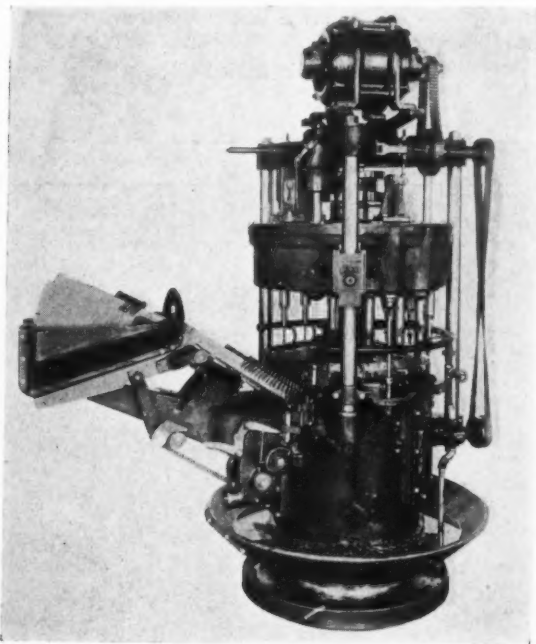
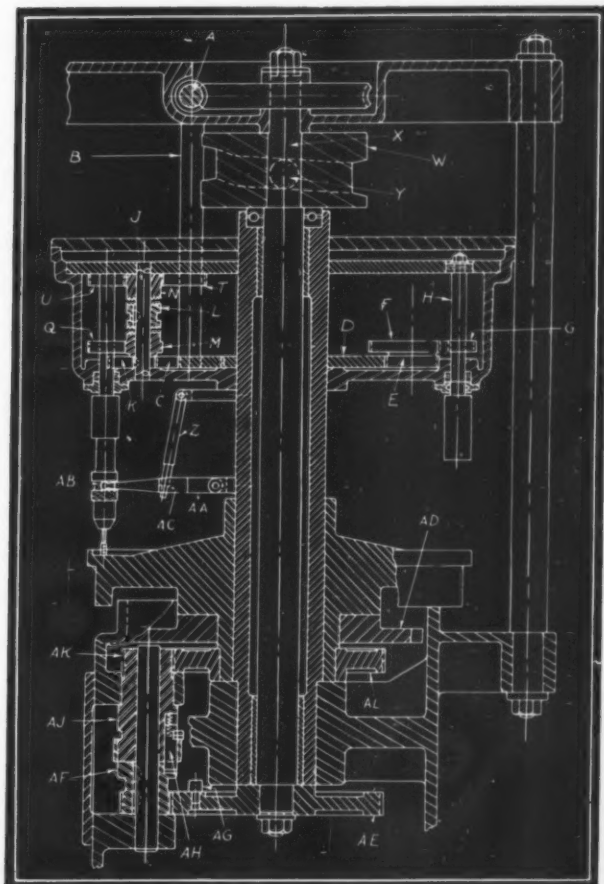

Fig. 1—General view of the machine showing hopper at left
Fig. 2—Cross section through operating mechanisms
Since the loading conditions are generally known, we can figure the approximate eccentricity from formula (9). If this value is introduced in formula (8) and it is found that the left hand side is equal or smaller than the right hand side, it will be necessary to resort to a positive drive of idlers C (Fig. 1).
As will be gathered from Fig. 1, the machine, built by Sommer & Adams Co., Cleveland, consists essentially of a hopper for the clevises; an intermittently rotating table; a drill head which carries the spot drills, drills and taps, and a cam mounted on the vertical center shaft for imparting up and down motion to the drill head. Fig. 2 shows a general section of the machine taken through the drive, feed and indexing mechan-
isms. The motor on top of the machine in Fig. 1 drives shaft A, Fig. 2. At the further end of the shaft, a bevel gear engages with another at the upper end of shaft B. This shaft carries a spur pinion C at its lower end, which drives a bull gear D, and from there all the drills and taps derive their respective motions.